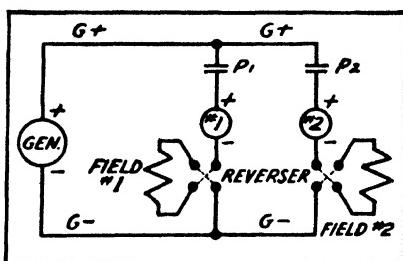

Fig. 27. Basic Power Circuits for Diesel Electric Motive Power. Parallel Motors
A Diesel electric equipment may consist of any desired combination of generators and traction motors, also, while the electrical circuits are basically the same, there are many ways in which these combinations may be connected. For the sake of simplicity, Fig. 27 shows a single generator (GEN) providing electrical power for two traction motors (No. 1 and No. 2), the latter being connected in parallel (with each other). Current flowing from the positive side of the generator (+) by way of conductor G+, divides and passes through two switches, P1 and P2 (when these are closed), to the traction motor armatures No. 1 and No. 2. After passing through these armatures the current flows to the respective reverser con-
It may be noted from Fig. 27 that the current which flows from the generator must be twice as great as that which flows through each motor. When starting a train, the heavy current re-
*Diagrams are usually available for Diesel electric motive power.* After a study of Figs. 27, 28 and 29, it should be relatively simple to trace out the scheme of connections for any particular unit. It may be pointed out that the designing engineer who lays out a Diesel electric transmission system first prepares a *schematic diagram* showing the scheme of electrical connections by a relatively simple line diagram embodying as few turns and crosses of the lines as